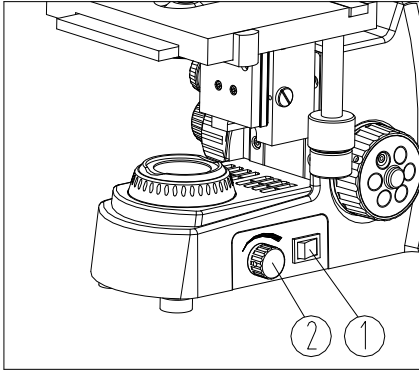

Fig.7
2. Adjust the light adjustment knob (2) until the illumination is comfortable for observation. Rotate the light adjustment knob in clockwise to raise the voltage and brightness. Rotate the light adjustment knob in counterclockwise to lower the voltage and brightness (see Fig.7).